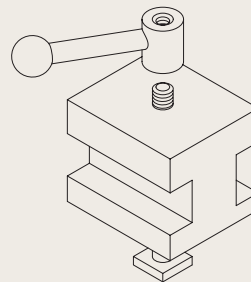
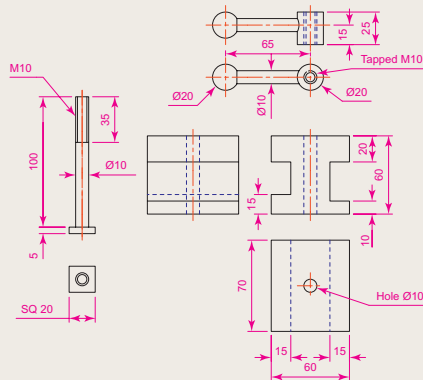

Fig. 7.26 Exercises 4 and 5 – orthographic projections of the three parts of the tool holder
Fig. 7.27 Exercises 4 and 5 – orthographic drawing of the tool holder on which the two exercises are based
4. Construct a three-view orthographic projection in an angle of your own choice of the tool holder assembled as shown in the isometric drawing Fig. 7.26. Details are given in Fig. 7.27.
5. Construct an isometric drawing of the body of the tool holder shown in Figures 7.26 and 7.27.